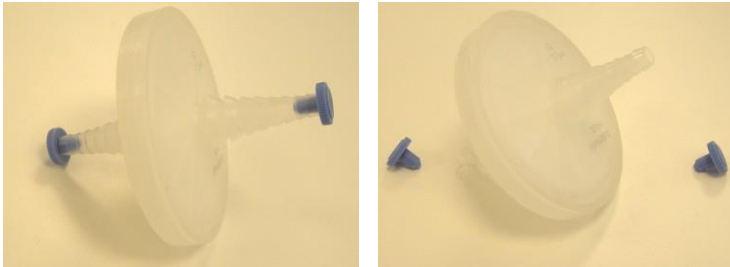

Figure 3-37. Removing the Filter's Caps
1. Remove the filter's caps, as shown in Figure 3-37.